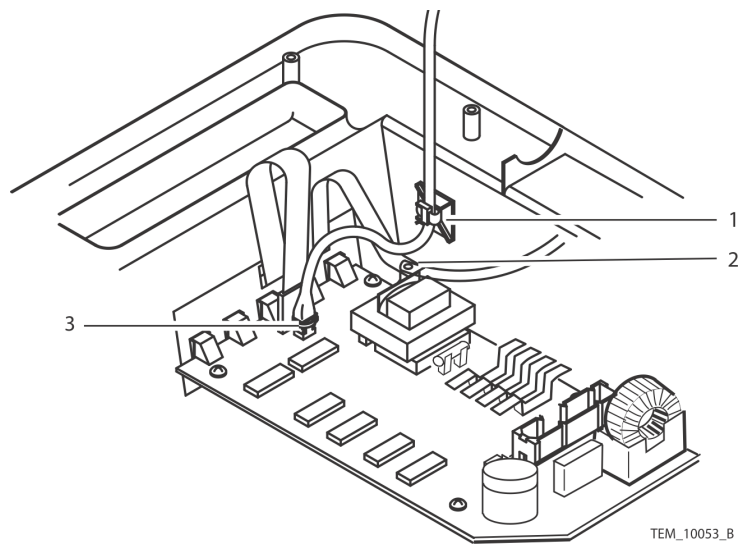

Figure 65. Cable Disconnect
15. Cut the cable tie securing the thermistor cable to the front cover assembly (Figure 65, item 1).
16. Remove the ground screw. See Figure 65, item 2.
17. Disconnect the thermistor cable connector. See Figure 65, item 3.